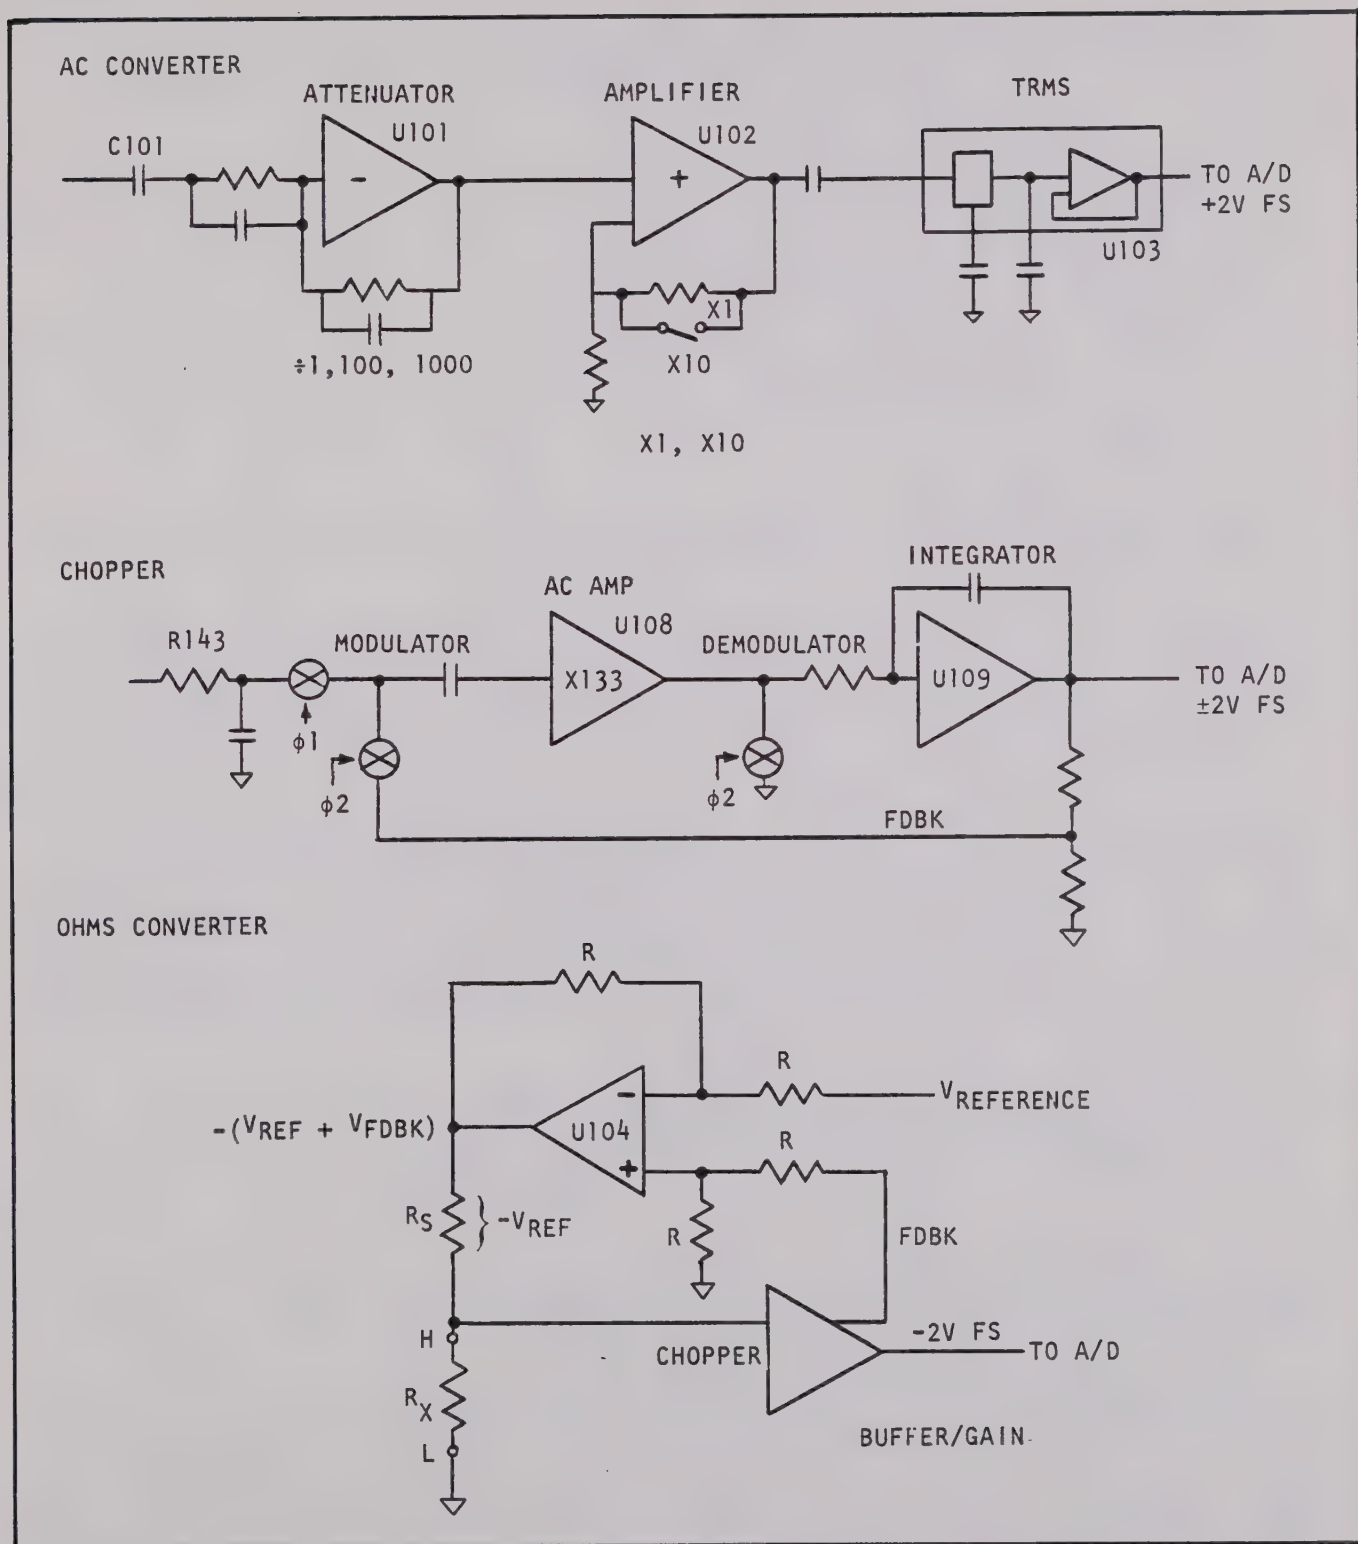

FIGURE 5-2. Simplified Signal Conditioning.
2) In the ACV mode, ac inputs for all ranges pass through the ac converter which consists of an amplifier/attenuator and a TRMS converter, as shown in Figure 5-2. The ac input is scaled by the amplifier/attenuator to 2 volts rms full scale for all ranges. The TRMS converter provides a positive dc output signal which is proportional to the true root mean square ac signal. This dc signal is the input to the A/D converter. In the ACA mode, the shunt voltage is applied to the input of the ac converter. The amplifier/attenuator provides a X10 gain for all ac current ranges.
b. A/D Converter. The A/D converter is a large scale integration (LSI) ratiometric device. Converter output is a multiplexed 5 digit number, in binary coded decimal (BCD) form which is equal to the ratio of the input voltage to the reference voltage. A separate clock circuit supplies a 100 kHz timing input to the integrated circuit, which also multiplexes the BCD output. The full scale A/D input for all ranges of the Model 4003 is 2 volts dc, with the polarity determined by the function as follows: (1) ACV and ACA, + 2 volts; (2) DCV and DCA, ± 2 volts; (3) Resistance (Ω), -2 volts.